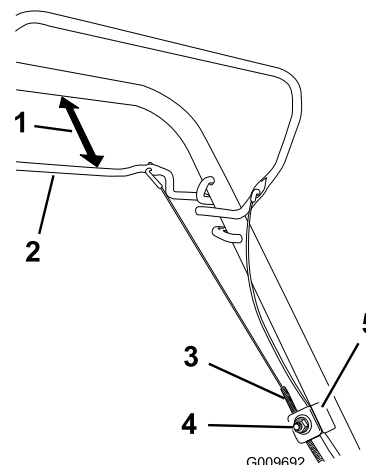

Figure 38
1. Loosen the cable support nut (Figure 38).
2. Hold the self-propel bail 1 to 1-1/2 inches (25 to 38 mm) from the handle (Figure 38).
3. Pull down the cable jacket (toward the machine) until there is no slack in the cable (Figure 38).